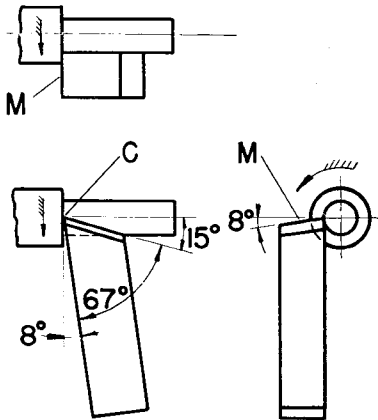

Fig. 4. Box tool bit in cutting position
Fig. 4 shows three views of a simple bit in cutting position. The edge M in contact with the shoulder of the stock is doing the cutting. This being the cutting edge, there must be clearance provided below it, as shown by the clearance angle at C. This angle is not ground on the bit, but is given by the tool itself. The flat side of the bit will make an 8 degree angle with the face of the work when the bit is clamped against its supporting surfaces in the box tool. Hook or side rake from the cutting edge is also shown at C. This angle must be obtained by grinding the bit.
- (a) Locate cutting point on center. Tap the bit forward until the cutting point is on center as in Fig. 4.
set up the stop screw R, Fig. 4, Booklet No. 1, until the slide has been pulled back .001" to .002". Stops are used to remove spring from the mechanism and thus give accurate sizing.